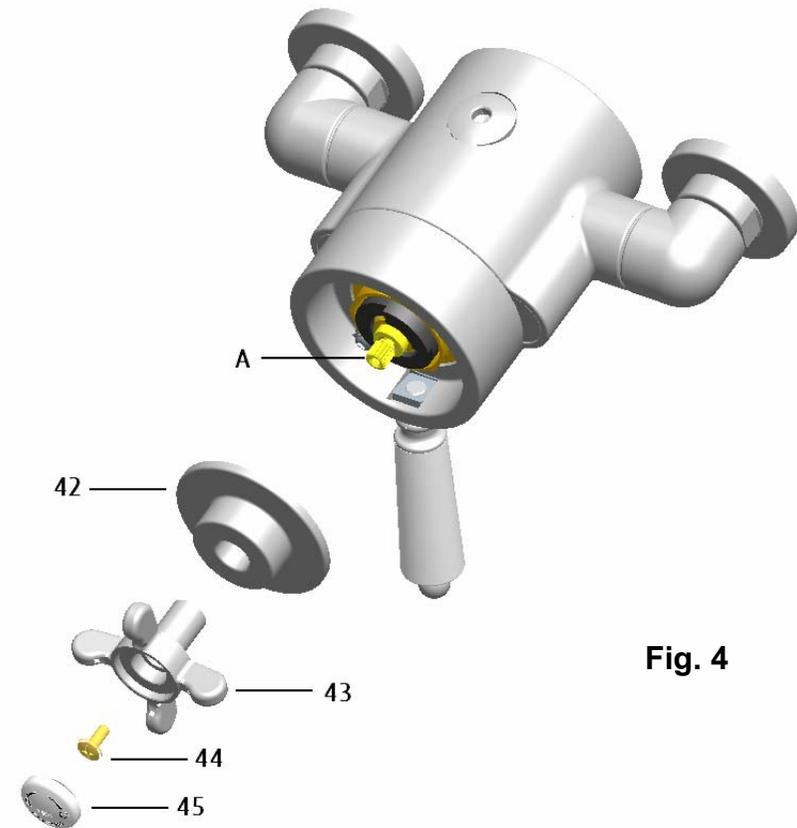

Fig. 4
8.8 Resetting the Maximum Temperature (See Fig. 4)
8.8.2 (See Fig.4) Remove the temperature control handle and shroud (43 & 42) by removing the indice (45), remove the (44) and pulling the handle and shroud (43 & 42) off the spindle (A).